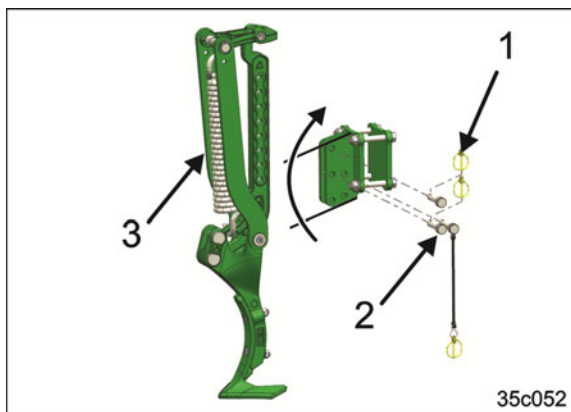

Fig. 119
1. Remove all of the linch pins (Fig. 119/1).
3. Remove all of the positioning pins (Fig. 119/2).